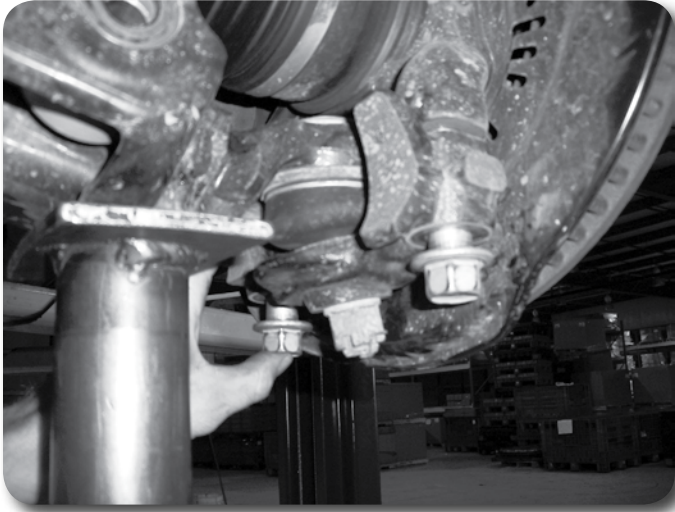

Figure 3
8. Remove the two lower bolts mounting the steering knuckle to the lower ball joint mount. **Figure 3** Save bolts.